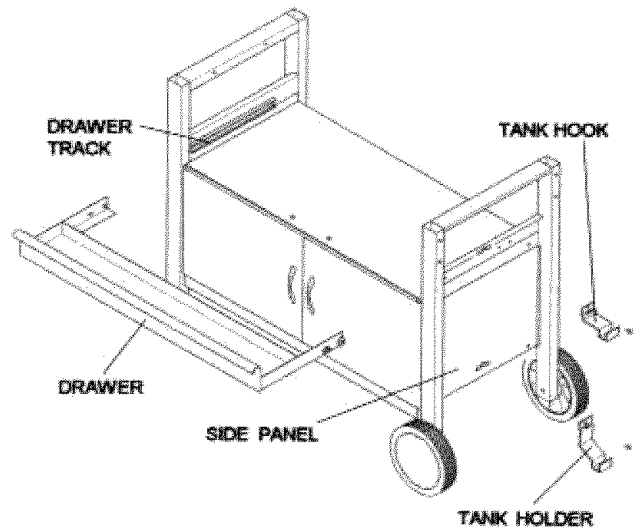

Figure 7
3. Slide the Drawer into the Drawer Tracks until it stops. See Fig. 7.
4. Install 2 of the 1/4"x1/2" Phillips head screws to the front of the Drawer Track. This important step prevents the drawer from being pulled outside the tracks. See Fig. 7.